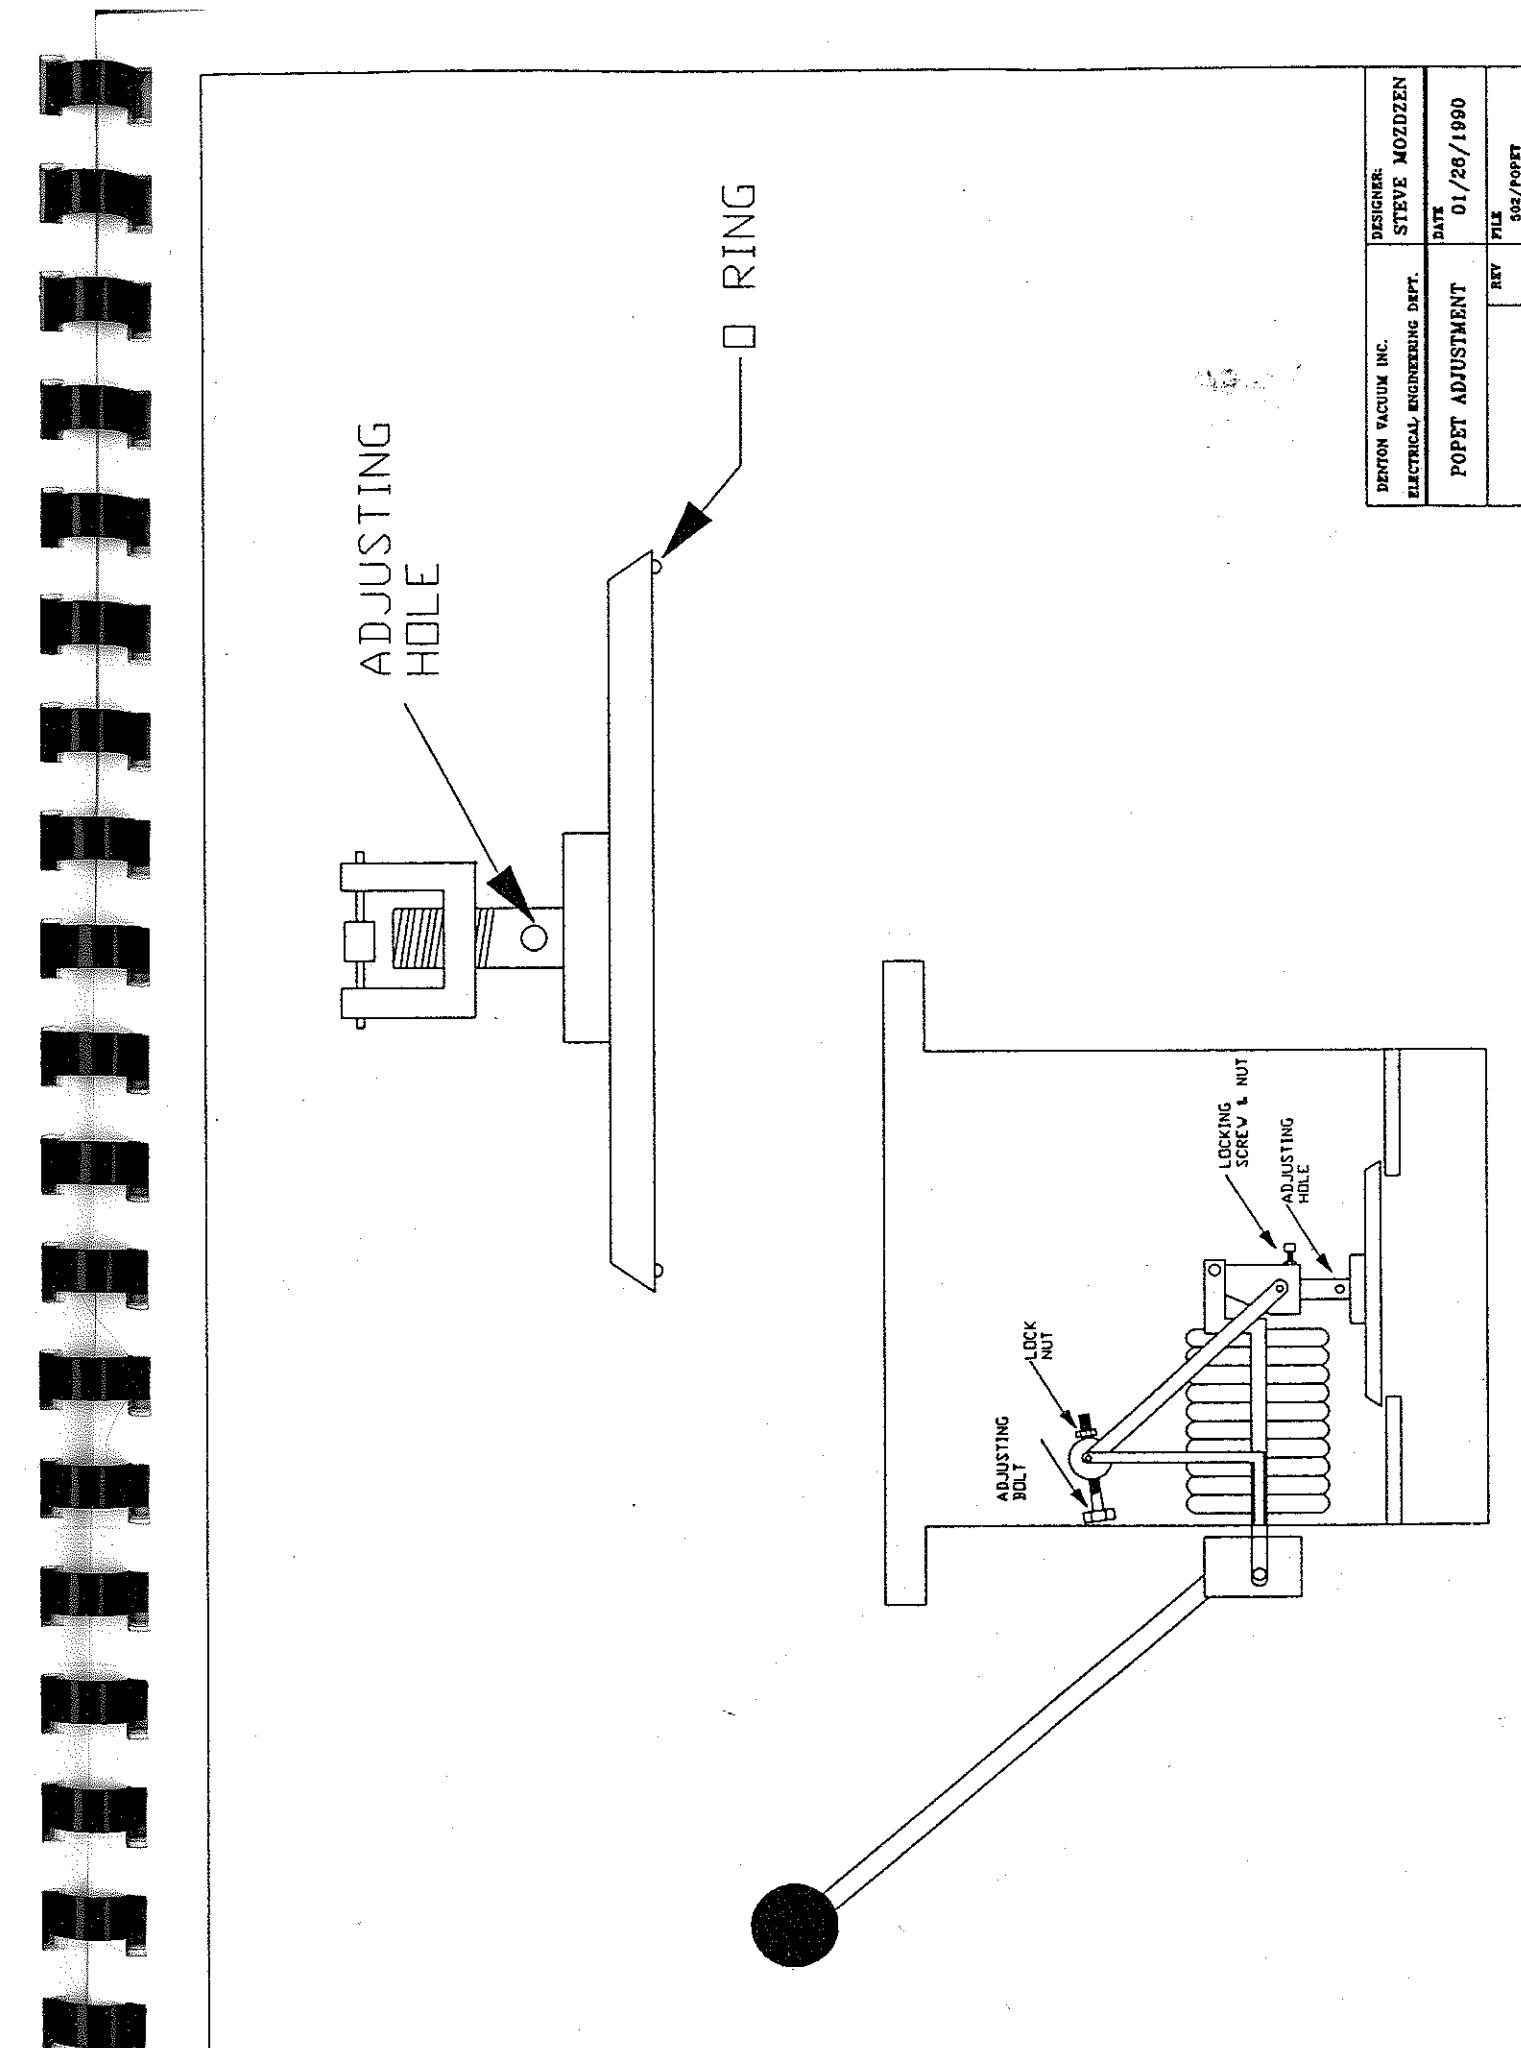

FIGURE 3
5.2 AREA BETWEEN MAIN VALVE & BACKING VALVE (Figure 3)